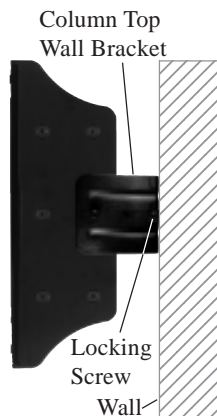

Figure 1
2. Remove the long Locking Screw from the Wall Mounting Bracket located at the top of the XR27. Refer to figures 1 and 2.